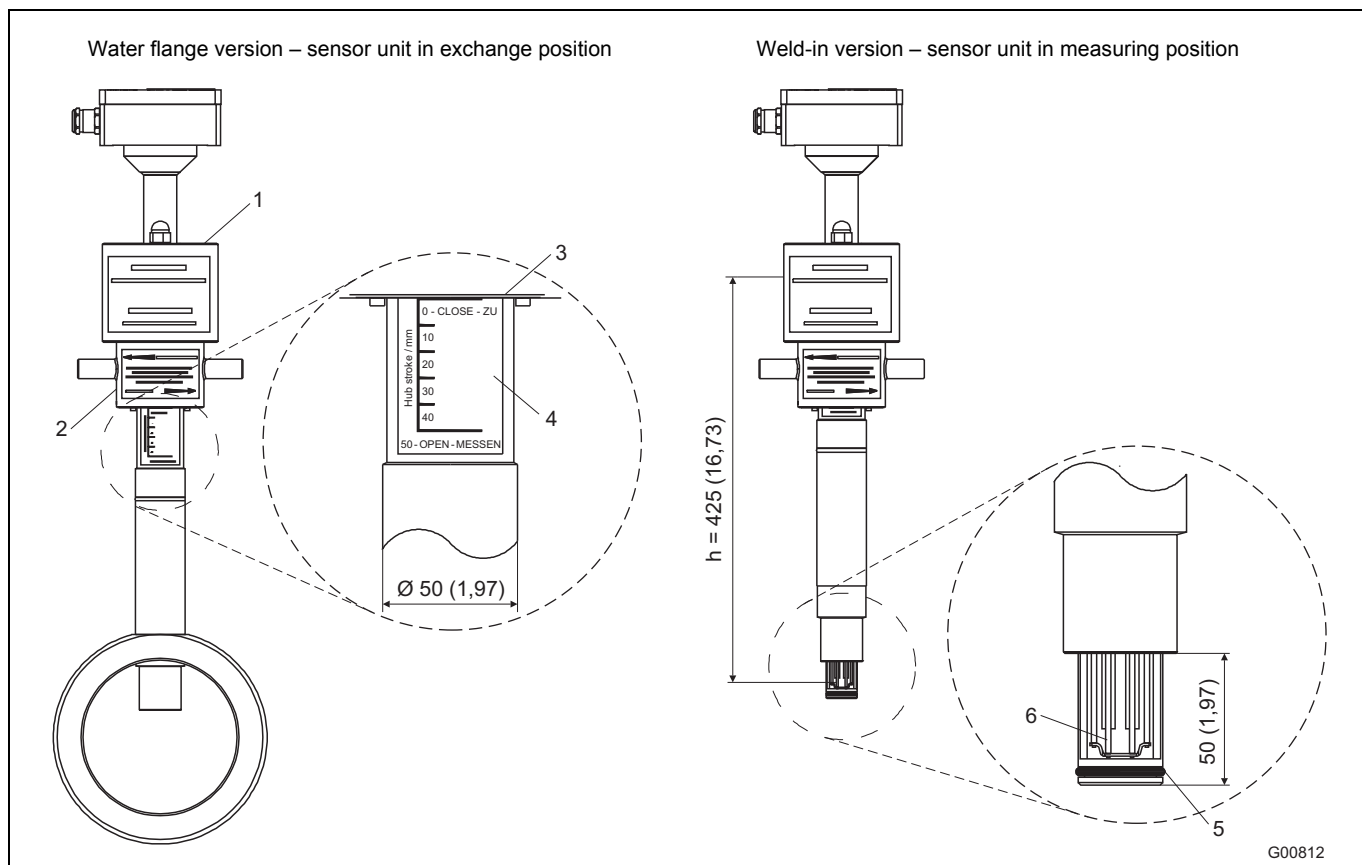
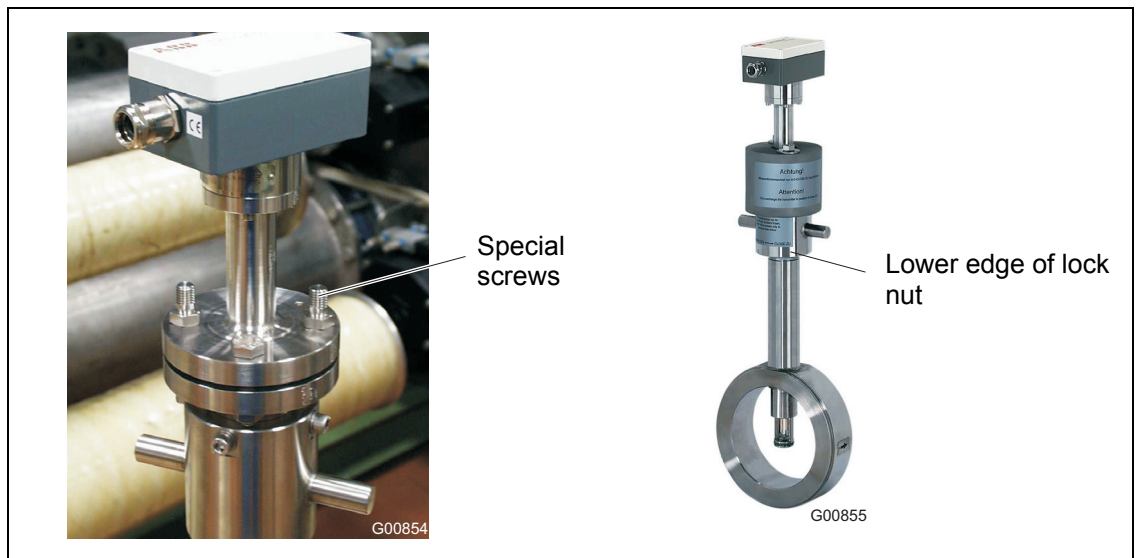

Fig. 6: Dimensions in mm (inch)
Fig. 11: Special screws for dust caps
The hot tap fitting is designed for pressure loads of max. 16 bar abs. To ensure interchangeability with standard pipe components (type 1), the wafer version (Fig. 8) has been developed for DN 50 and DN 80 DIN flanges with a pressure stage of PN 40. In the case of the DN 65 version with a pressure stage of PN 16, you should use connection flanges with 4 screw holes. Imperial versions 2 ... 8" designed for connection flange ASME B16.5 Cl.150 only. For suitable flowmeter sensor lengths, see Fig. 6.
- Insert the transmitter in the hot tap fitting and secure with screws (two M12 screws and two extended special screws, installed opposite each other (Fig. 11)).
- Install the dust caps and use nuts to attach them to the special screws (Fig. 11).
- Rotate the transmitter into the measuring position using the lock nut (Fig. 11). The lower edge of the lock nut indicates the position of the measuring element. When you reach the measuring position 50 – OPEN – MESSEN (lower limit stop of lock nut), the measuring elements are in the middle of the pipeline and it is only at this point that accurate values can be provided (see detail A in Fig. 6).
- Using the lock nut, rotate the hot tap fitting into the disassembly position. (Upper limit stop of lock nut, with lettering 0 - CLOSE - ZU must be visible; see detail A in Fig. 6).